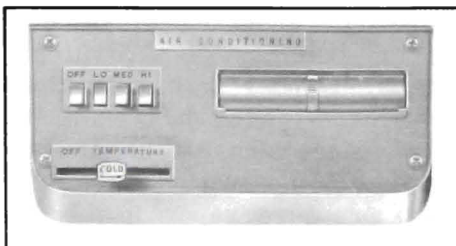

Figure 11-29—Air Conditioner Controls
Figure 11-29. The push buttons provide an "OFF" and three blower speeds, low, medium and high. When the low, medium or high button is depressed, an electrical circuit is completed to the clutch of the compressor. The lever labeled "COLD" operates the outside air valve and determines the evaporator discharge air temperature. This lever is connected to the suction throttle valve and the outside air valve by control wires. When the "COLD" lever is at the extreme left, the suction throttle valve is set for minimum cooling and the outside air valve is closed. Moving the lever to the right fully opens the outside air valve and sets the suction throttle valve to increase cooling or lower the outlet air temperature.
2. Depress "Hi" button on evaporator case. See Figure 11-29. This turns blower on high speed and starts compressor.